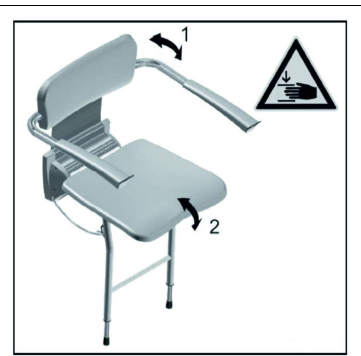

Fig. 21
**11 Usage (Fig. 21)****CAUTION!****Risk of Trapping/Squeezing**
Do not reach into the folding mechanism. (Fig. 21)
1. Fold the shower seat by grabbing the armrests and moving them upward. (Fig. 21) (If applicable)